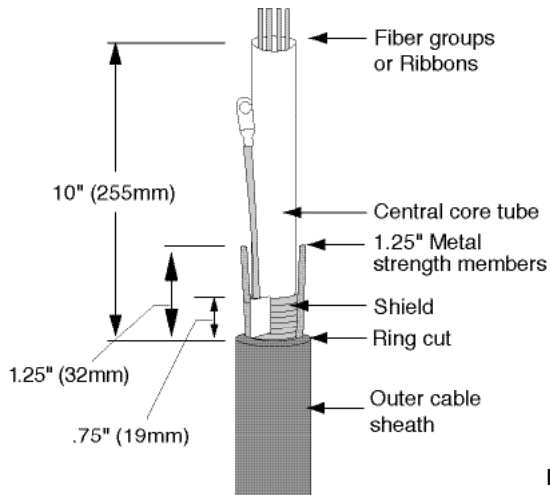
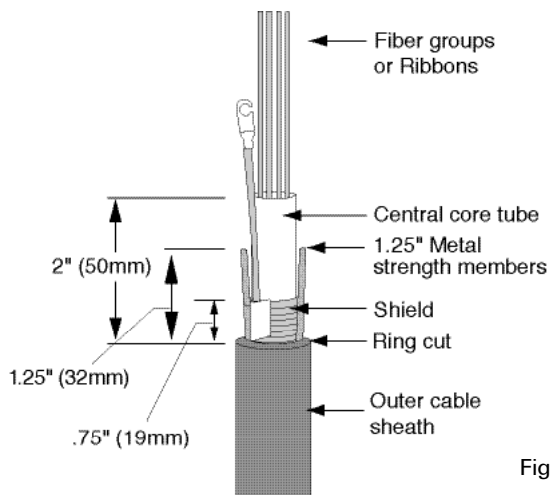

Fig. 4
Fig. 5
**Note:** If you are using a slack basket and the cable will enter through the lower (larger) ports of the gel block, see Figure 4. If you are not using a slack basket, see Figure 5, then skip to step 6.